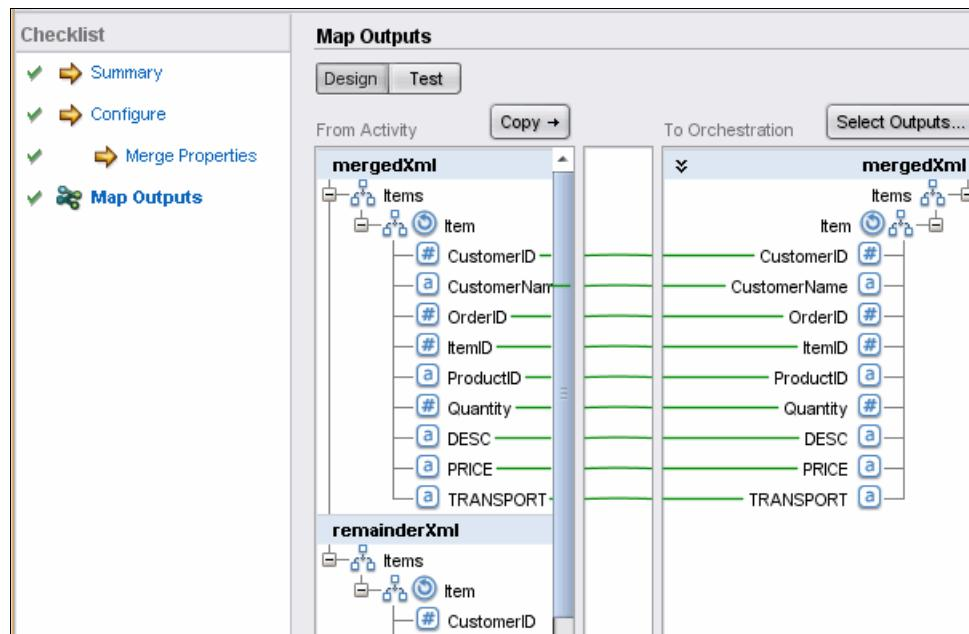

Figure 12-62 Map Outputs panel from Merge activity
4. Select **Map Outputs**. Click **Copy**, and select **mergedXML** in the Copy Parameters window. Click **OK**, as shown in Figure 12-62.